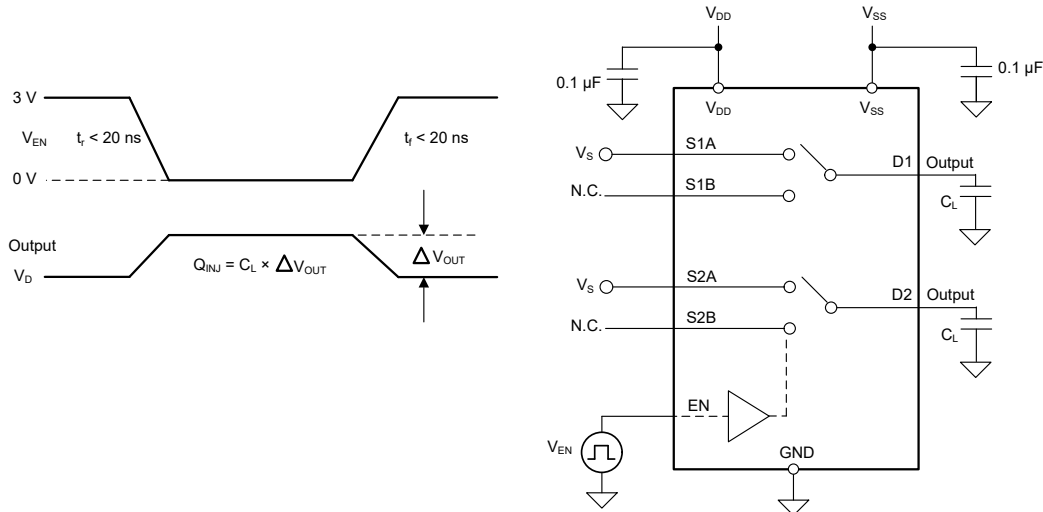

Figure 7-9. Charge-Injection Measurement Setup
The TMUX7236 has a transmission-gate topology. Any mismatch in capacitance between the NMOS and PMOS transistors results in a charge injected into the drain or source during the falling or rising edge of the gate signal. The amount of charge injected into the source or drain of the device is known as charge injection, and is denoted by the symbol Q_{INJ} . Figure 7-9 shows the setup used to measure charge injection from source (Sx) to drain (D).